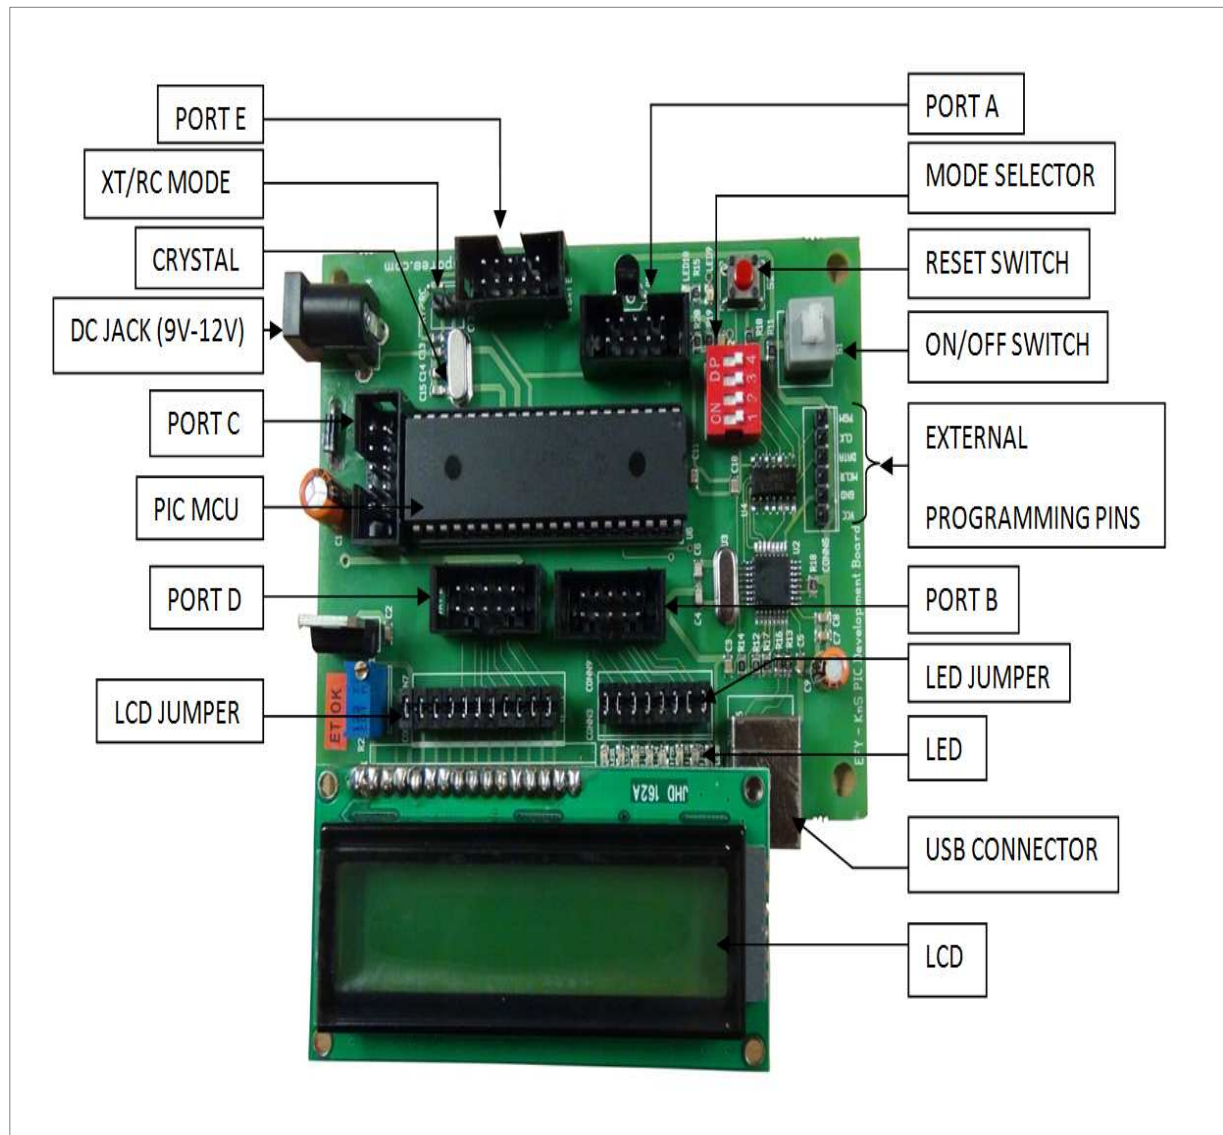
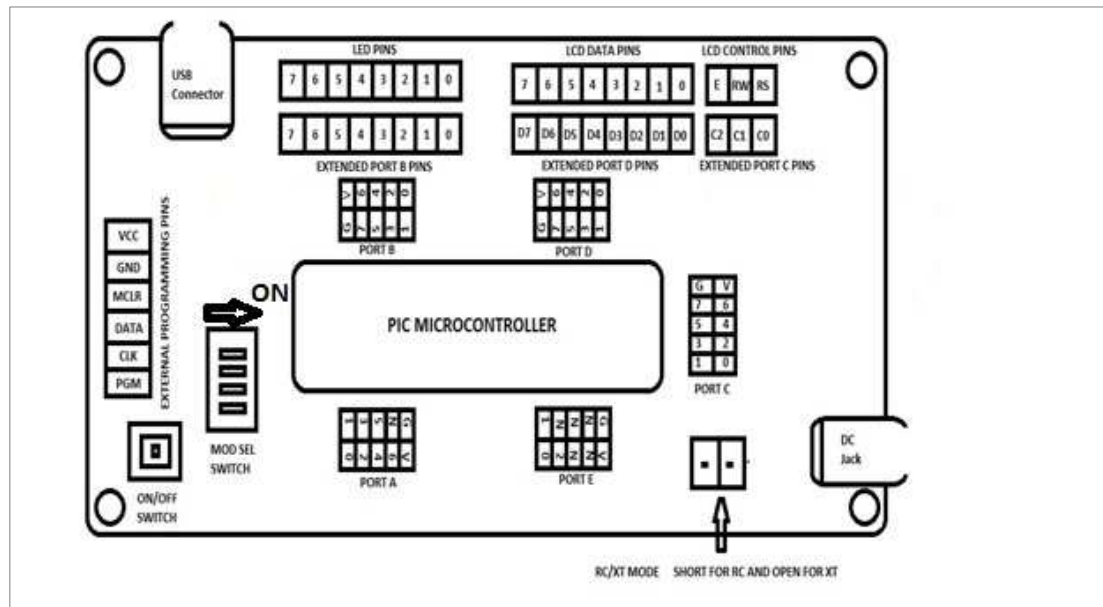

Fig. 1: PIC Development Board layout
Fig. 2: Pin diagram
The layout of a PIC Development Board is shown in Fig.1, indicating the positions of various interfaces on the board.
Fig. 2 shows the pin diagram for interfacing external hardware to the board and to use the on-board interfaces for debugging the programs.
3. Choose between XT and RC using a mini jumper as mentioned in Fig. 1 and Fig. 2.